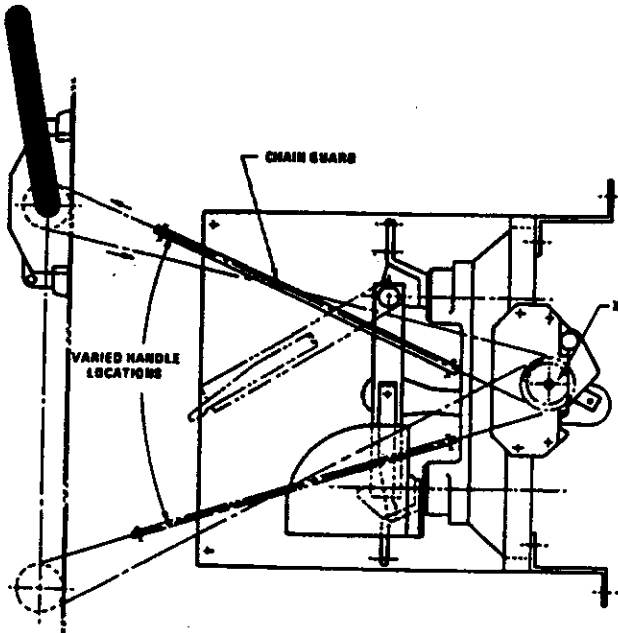

Fig. 11 Handle "UP" in switch closed position.
The component parts for this type installation are shown in Fig. 11. The arrangement is essentially the same as for Type V, except the handle is at the front right.
- Assemble the chain drive sprocket kit (Mk 302, Dwg. 316-557, sprocket, washer and retaining ring) on the stored-energy device of the switch at the right, as shown at (X) in Fig. 11.
- b. Mount the frame-mounted switch (Fig. 11) in the enclosure.